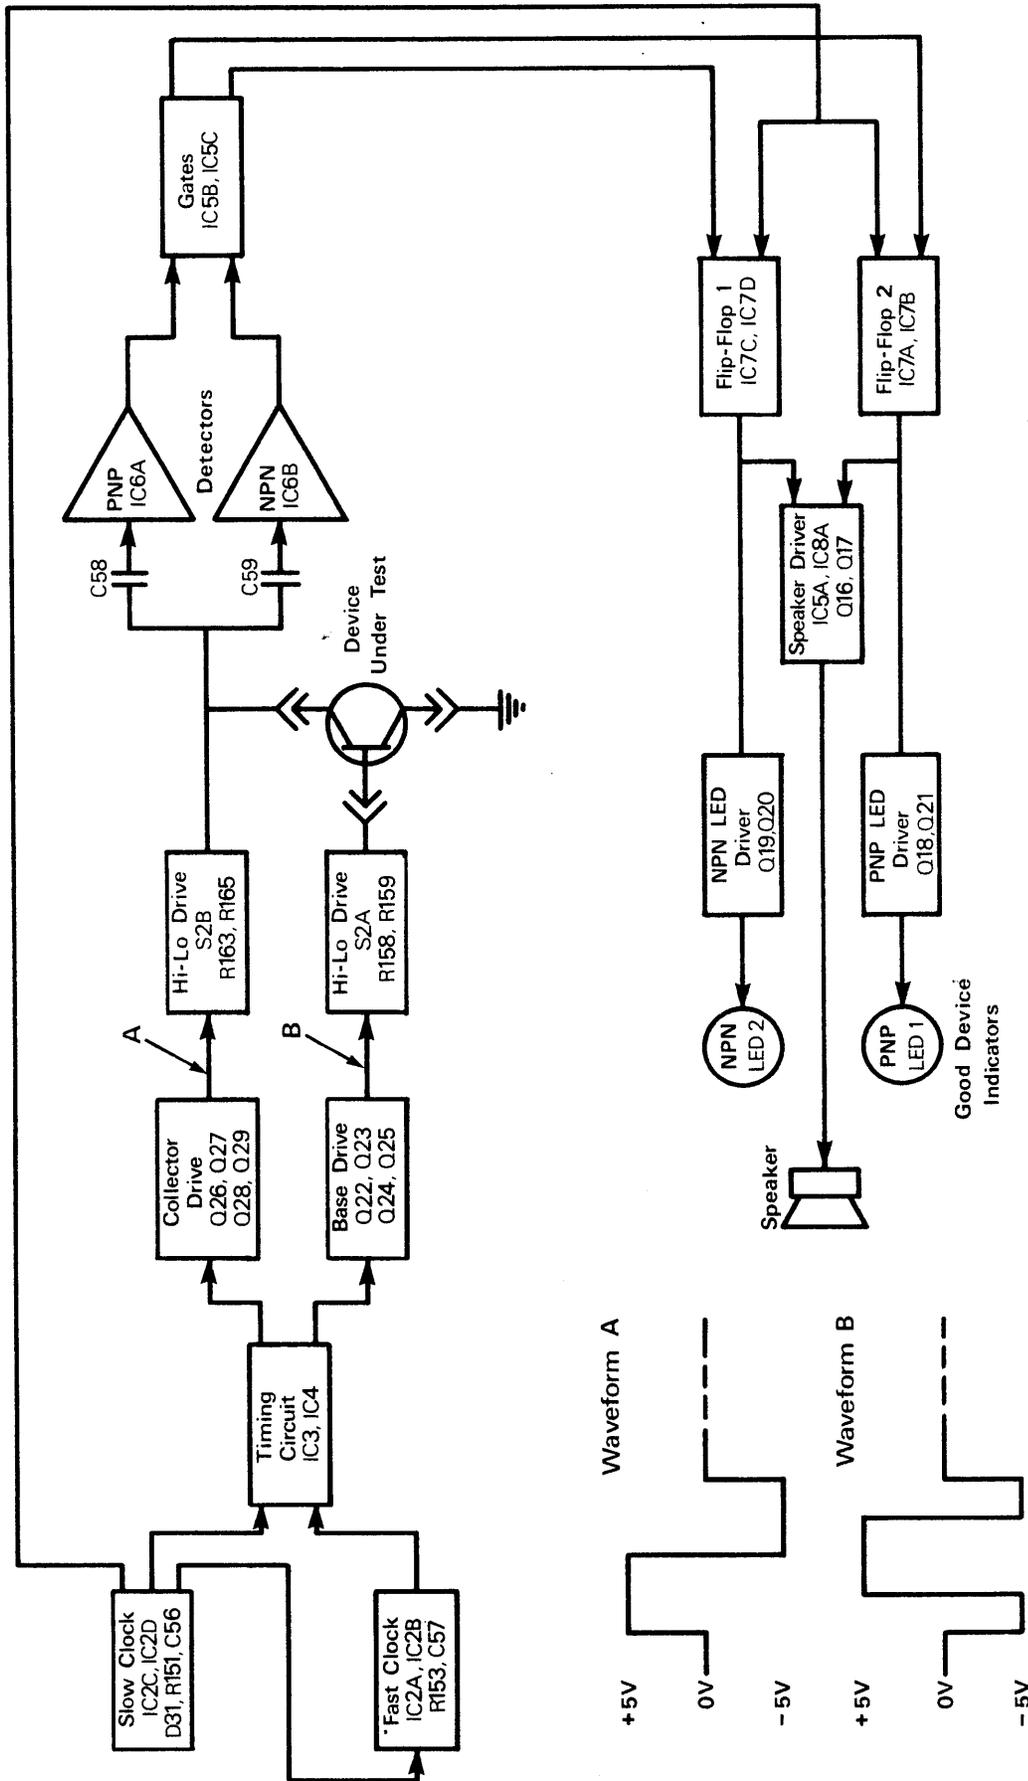

Fig. 4. Block diagram, basic test circuitry.
1. The Model 530 test circuitry uses two clock generators that produce a series of pulses designed to test a device periodically, about seven times per second. These short, high-current pulses are applied to the collector (drain); the first is positive for testing NPN/N-CH devices, followed by a negative pulse for testing PNP/P-CH devices. During these pulses, a shorter pulse of the same polarity is applied to the base (gate) of the device, which drives the collector (drain) voltage toward saturation. (See Fig. 4, pulses A and B.)
Taking a closer look at the basic test circuitry, refer to Fig. 4 and schematic. The slow clock, which runs at approximately 7 Hz, initiates each test period while simultaneously resetting flip-flop 1 and flip-flop 2. The fast clock runs at approximately 500 Hz and controls the pulse-forming circuits.
3. A properly connected NPN or N-channel device will see both waveforms 'A' and 'B' of (Fig. 4). The collector (drain) will see waveform 'A', and the base (gate) of the device under test will see waveform 'B'.
If the device being tested is NPN or N-channel, the collector (drain) voltage will drop abruptly when its base (gate) is driven positive. This negative-going transition, which will only occur if gain action is present (a good device), is differentiated and the signal produced is used to latch flip-flop 1 of Fig. 4.
If a PNP or P-channel device is tested, the turn-on transition occurs during the second half of waveform 'A' of Fig. 4, and in the opposite direction. This transition (positive-going) is differentiated and the produced signal is inverted and used to latch flip-flop 2 of Fig. 4.
- The outputs of flip-flops 1 and 2 of Fig. 4 are either +5V or -5V, depending on whether the device tested was a good NPN/P-channel or PNP/P-channel. The output from the activated flip-flop drives a LED DRIVER which produces enough current to turn on the corresponding front panel indicator, the NPN/N-channel or the PNP/P-channel LED.